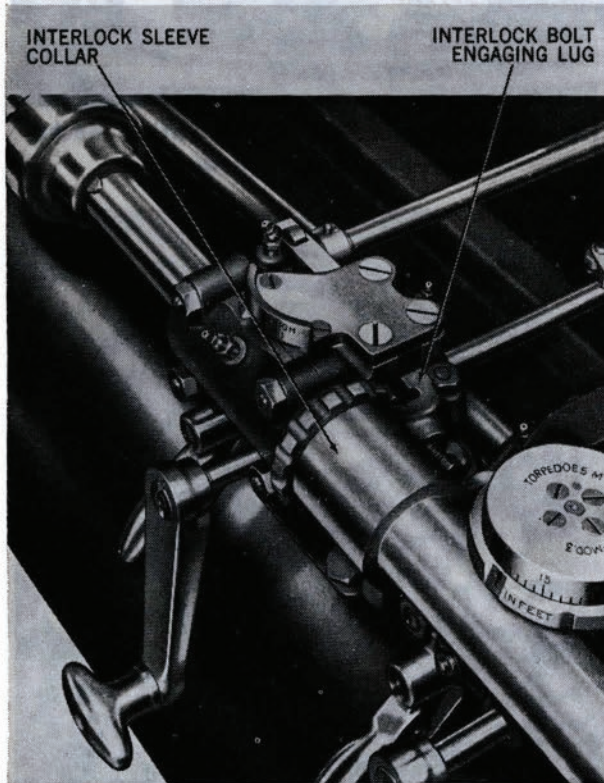

Figure 102—Simple Type Speed Setting Mechanism Installed—Spindle OUT.
**Speed Setting Interlock Bolt.** Action of this bolt, which locks or releases the engaging and disengaging lever, is illustrated in figures 102, 103, 104, and 105. The lever is attached to the lever fork, which has a rounded extension fitting into the slot in one end of the interlock bolt. Rotation of the engaging and disengaging lever imparts a fore-and-aft motion to the interlock bolt, engaging or releasing a lug on the interlock sleeve collar. When the spindle is in, the interlock bolt is forced over on top of the lug. Therefore, the interlock sleeve cannot rotate, and movement of the firing interlock lever to TUBE READY TO FIRE is prevented.